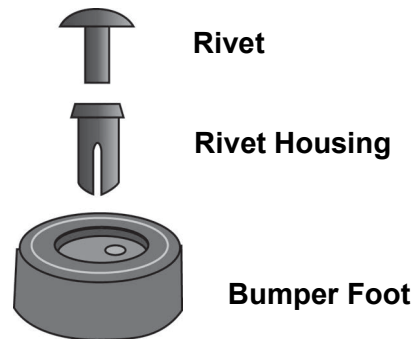

Figure 22. Parts of the Bumper Feet
1. Disassemble the bumper feet by removing the rivets and rivet housings from the bumper feet. See Figure 22.